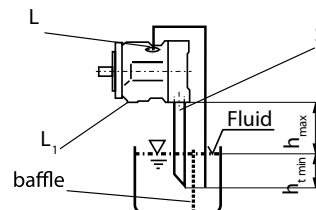

fig. 4
Pipe port "L" and "S" acc. to fig. 4, port "L₁" closed.
a) When mounting above the reservoir: see fig. 4 (compare item limiting conditions)